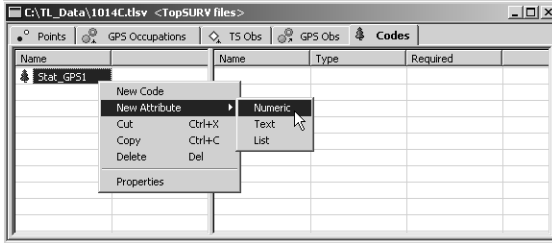

Figure 4-57. Select Code Attribute
2. To edit the code's attribute, right-click the code and click **New Attribute** on the pop-up menu, then select the desired attribute (Figure 4-57).